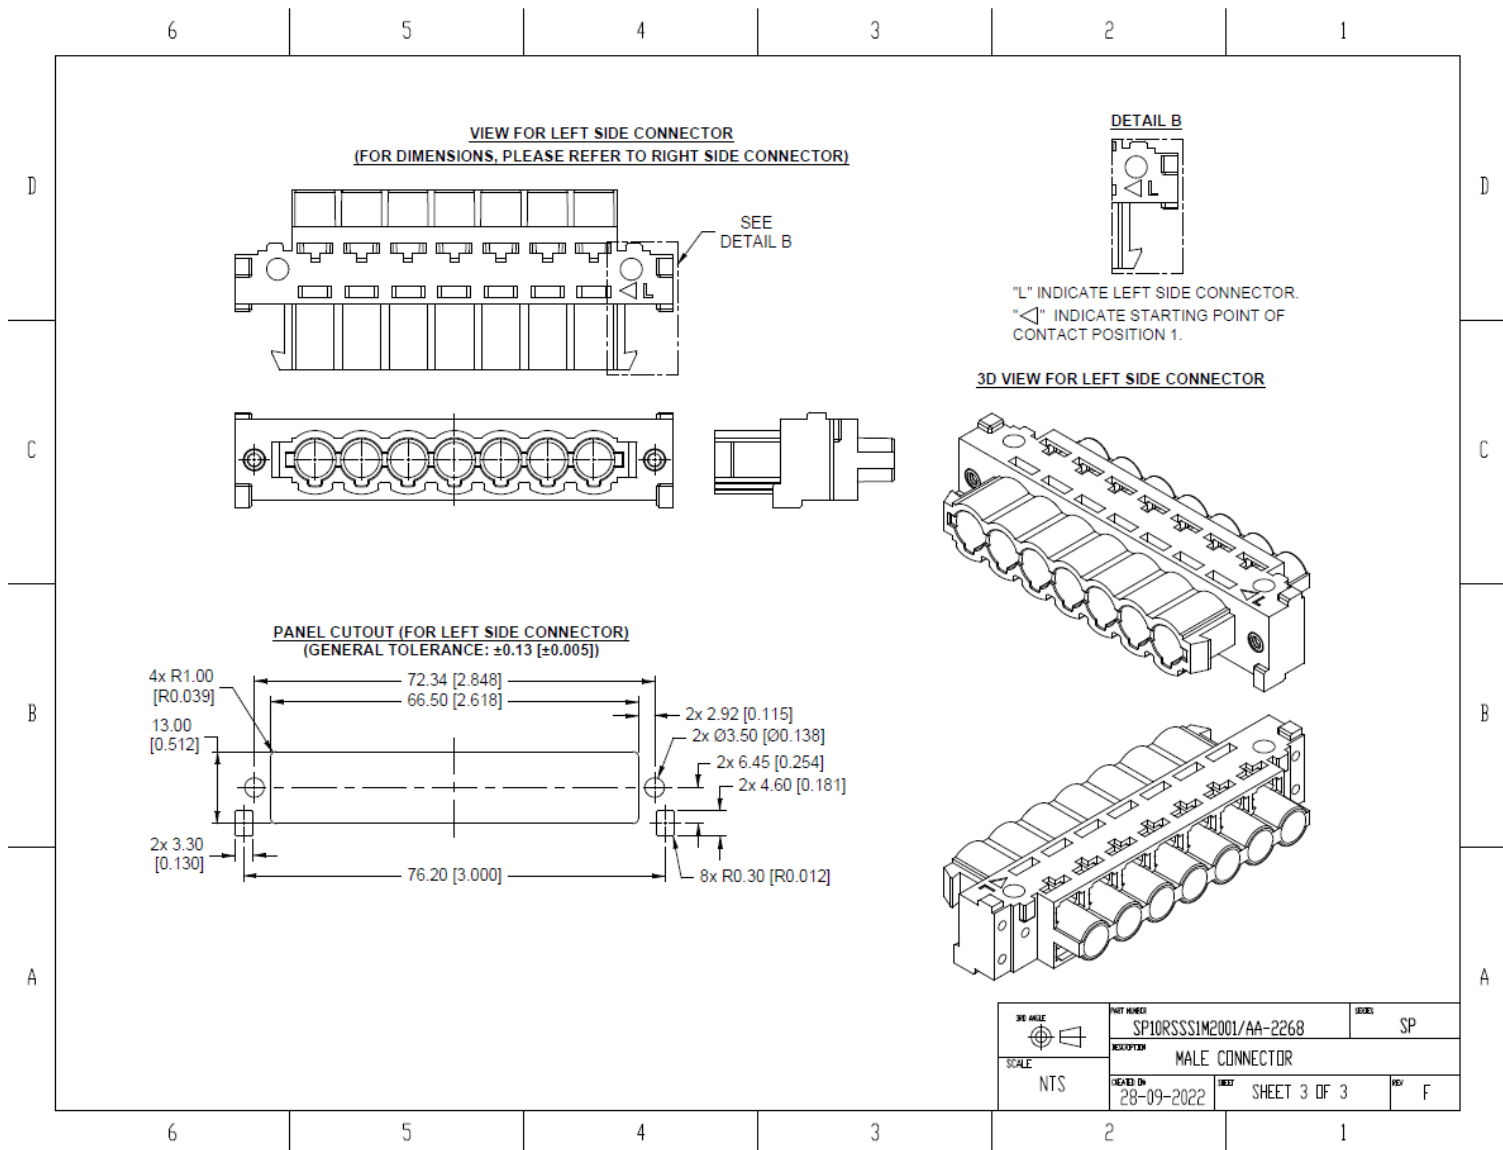

Figure 9.7 SP10RSSS1M22001/AA-2268
- **Figure 9.7:** Male connector, Panel Mount Crimped Version w/ Threaded Insert Mount, Universal